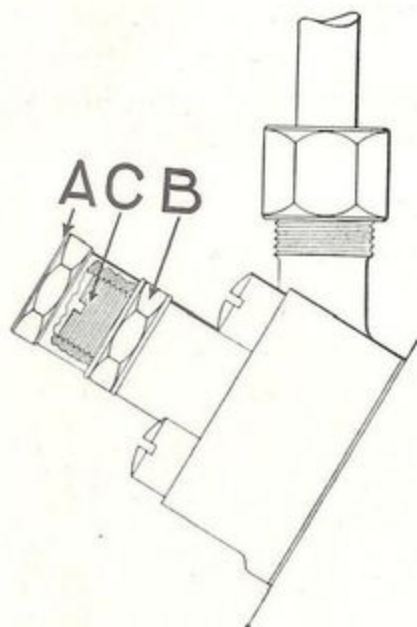

Figure 3
2. Remove cap nut A (Fig. 3), from oil pressure adjustment device (this will be found at base of feed line leading to oil pressure gauge on right side of crankcase).
3. Loosen lock nut B (Fig. 3) and turn screw C "in", or (clockwise) to increase pressure and "out", or anti-clockwise, to decrease pressure.